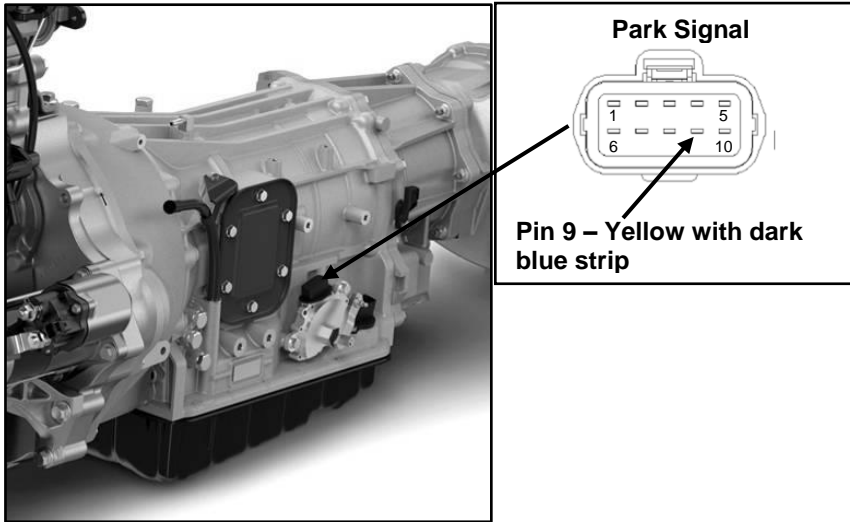

Figure 9.6 – Park Signal location – AS69RC
- Route the long blue wire from the throttle control to the transmission range sensor on the driver side of the transmission above the oil pan (Figure 9.6) Solder and seal the blue wire to the yellow wire with the dark blue stripe at pin 9 on the connector.